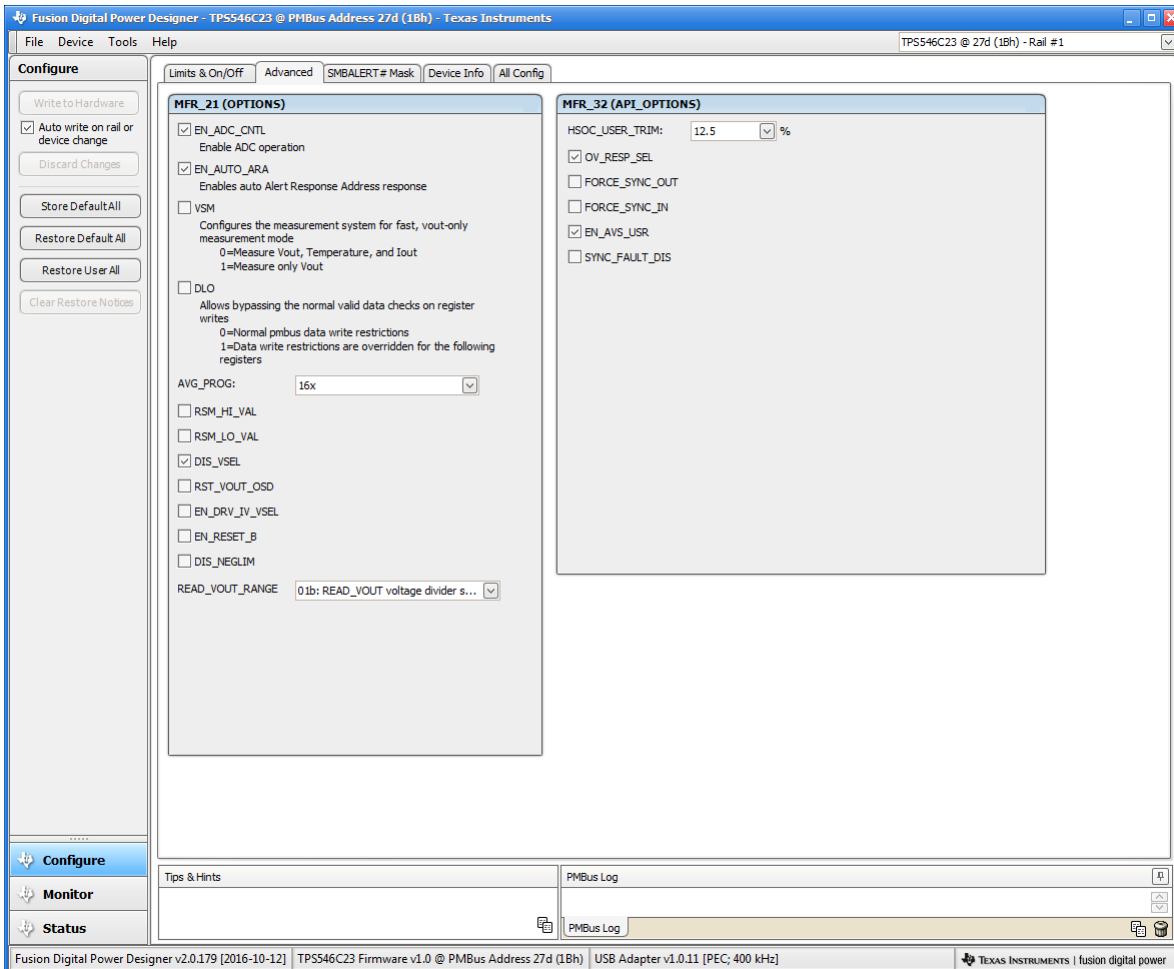

Figure 30. Configure - Advanced
- Use the **Advanced** tab Figure 30 to configure: